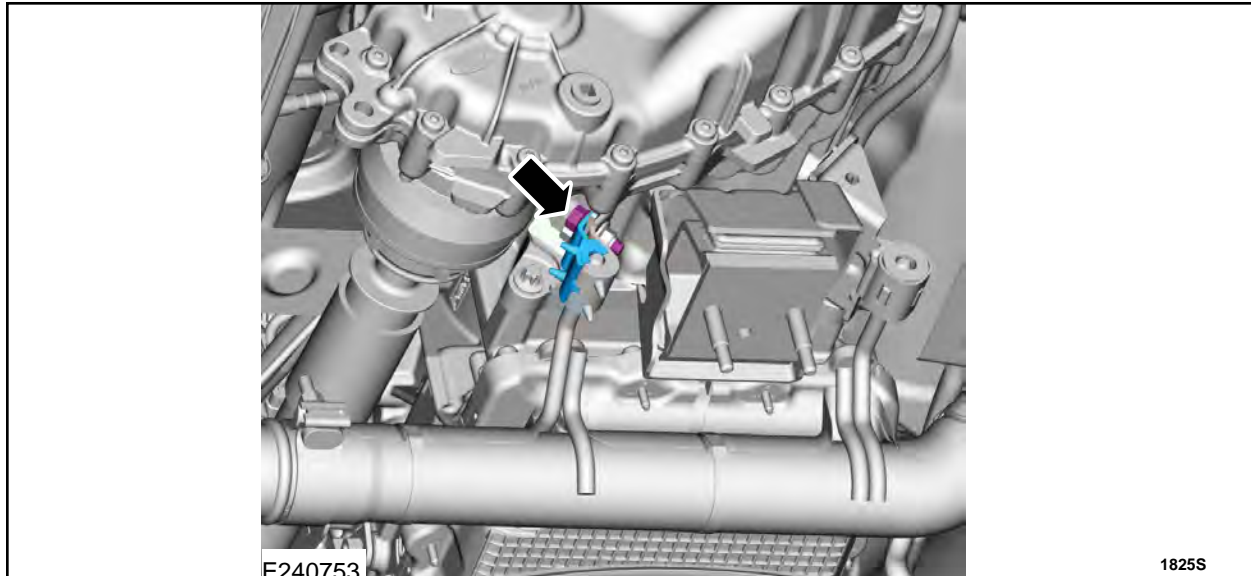

FIGURE 38
58. Install the LH isolator cap and the bolt. See Figure 38.